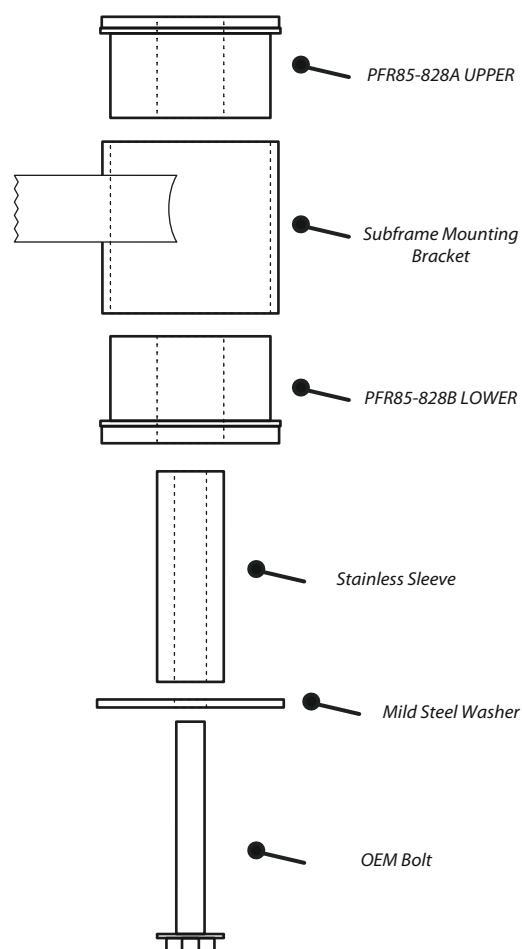

Figure 1
4. Push the Polyurethane bushes into either end of the bore on the subframe, with the A part (marked "UPPER") at the top, and the B part (marked "LOWER") at the bottom. See Figure 1.